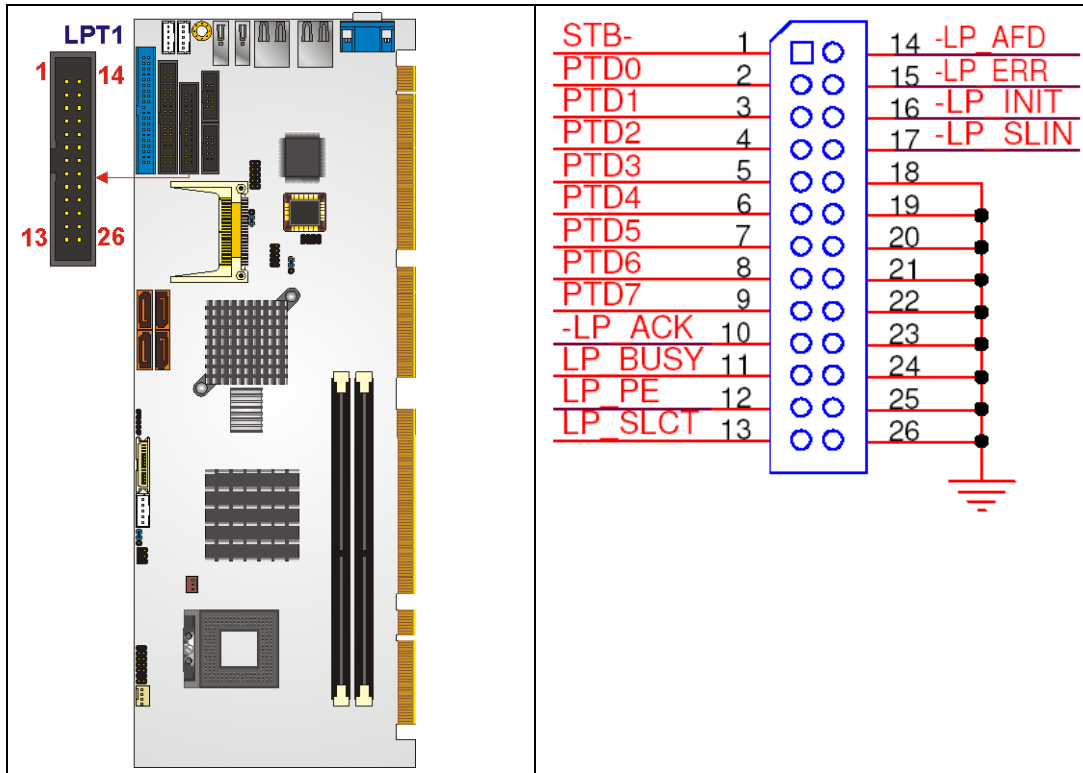

Figure 4-15: Parallel Port Connector Location
- CN Location:** See Figure 4-15